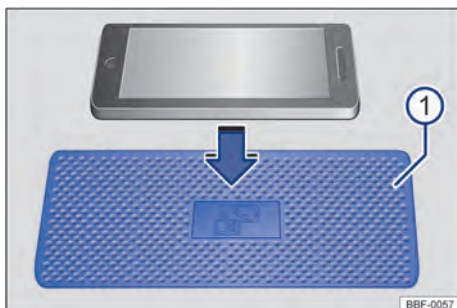

Fig. 103 Stowage compartment with pad for wireless charging function. The symbol on the lining pad may appear differently in some vehicles.
Depending on the vehicle version, the charging area → **Fig. 103** **①** of the wireless charging function is located in the middle of the centre console or storage compartment, in the area between the front seats.